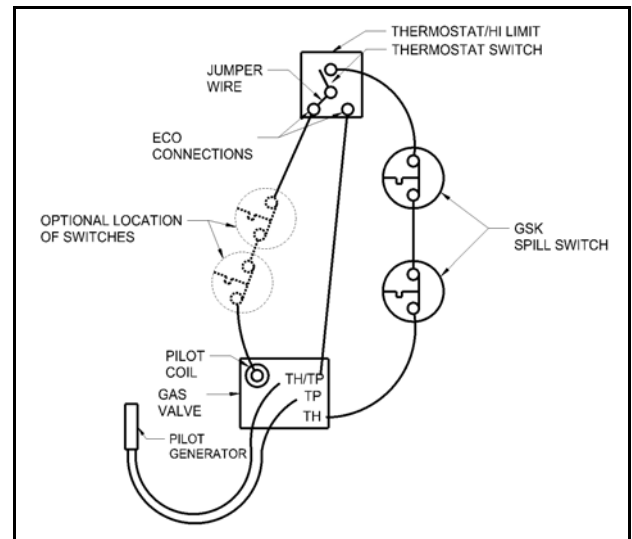

Figure 11
2. Wire the spill switch or switches into series with this circuit by wiring from the thermostat to the spill switch or switches then to the TH terminal on the gas valve. On older bleed tube style equipment wire switches in series with one wire of the E.C.O. circuit. (See Figure 11)